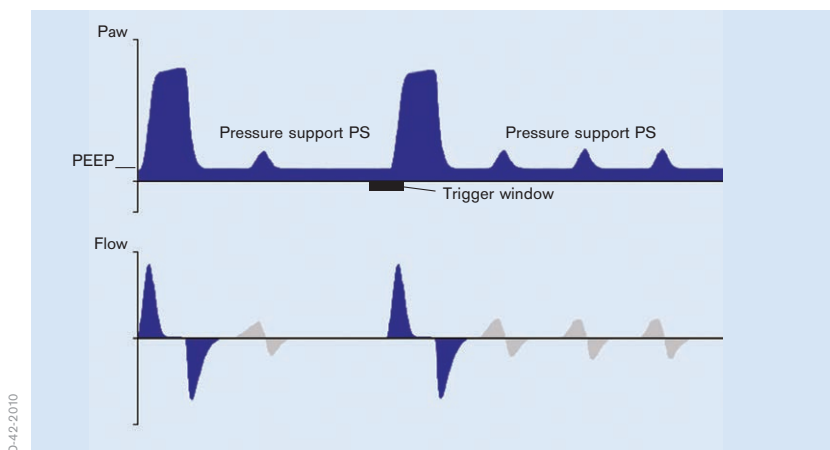

Figure 43: PC-MMV
- volume guarantee is always enabled (Figure 43)